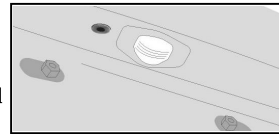
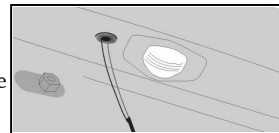

Fig. 5
Fig. 6
7. After you have drilled a hole, insert the supplied grommet (Fig. 5), then pass the power cable through the grommet into the vehicle (Fig. 6). You must use the grommet to prevent the metal edge of the hole from cutting the power cable.